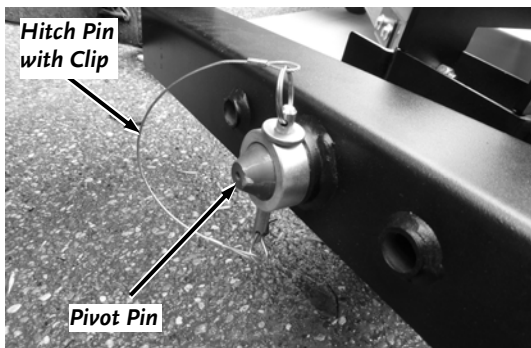

Figure 5
3. Secure the Pivot pin to the 3-Point Bracket with the Locking Ring and Hitch Pin with Clip (**Figure 5**).